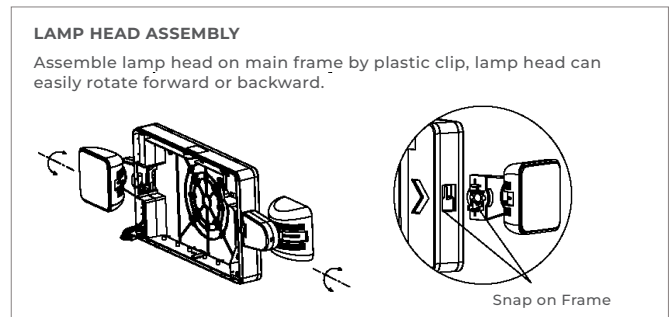

FIGURE 3
- C) Remove side hole plug from housing, snap lamp heads on the unit and connect to PC board (see Fig 3).
- E) Snap lamp heads on the unit and connect to PC board (see Fig 3).